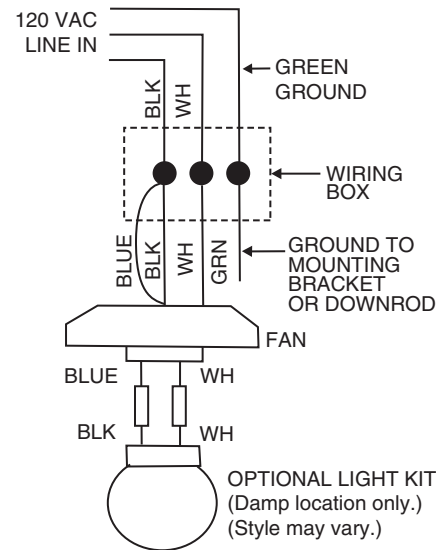

FIGURE 8
1. Connect the fan supply (black) wire and light supply (blue) wire to the black household supply wire as shown in Figure 8.